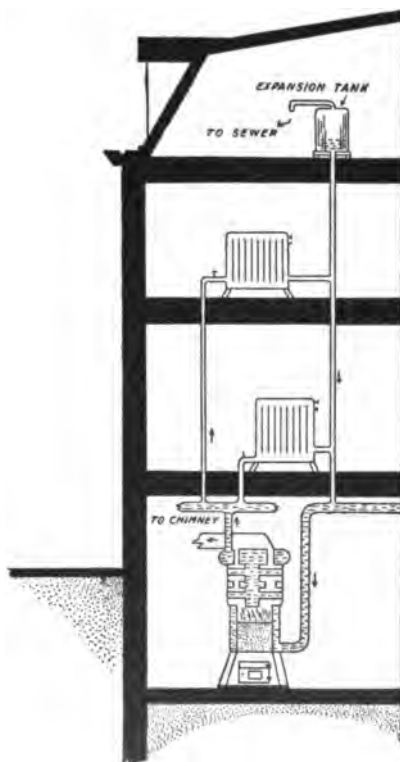

FIG. 142.—A hot-water system of heating.
**160. Hot-water Heating.**—In hot-water heating a furnace arranged for heating water is placed in the basement. (See Fig. 142.) Attached to the top of the heater are pipes leading to the radiators in the various rooms; other pipes connect the radiators to the bottom of the boiler. The heater, pipes, and radiators are all filled with water before the fire is started. When the water is warmed, it expands and is pushed up through the pipes by the colder water in the return pipe. The circulation continuing brings hot water to the radiator while the cooled water returns to the heater, the hot radiators heating the several rooms.
In heating by *direct radiation* (Figs. 142, 143), the steam or hot-water radiators